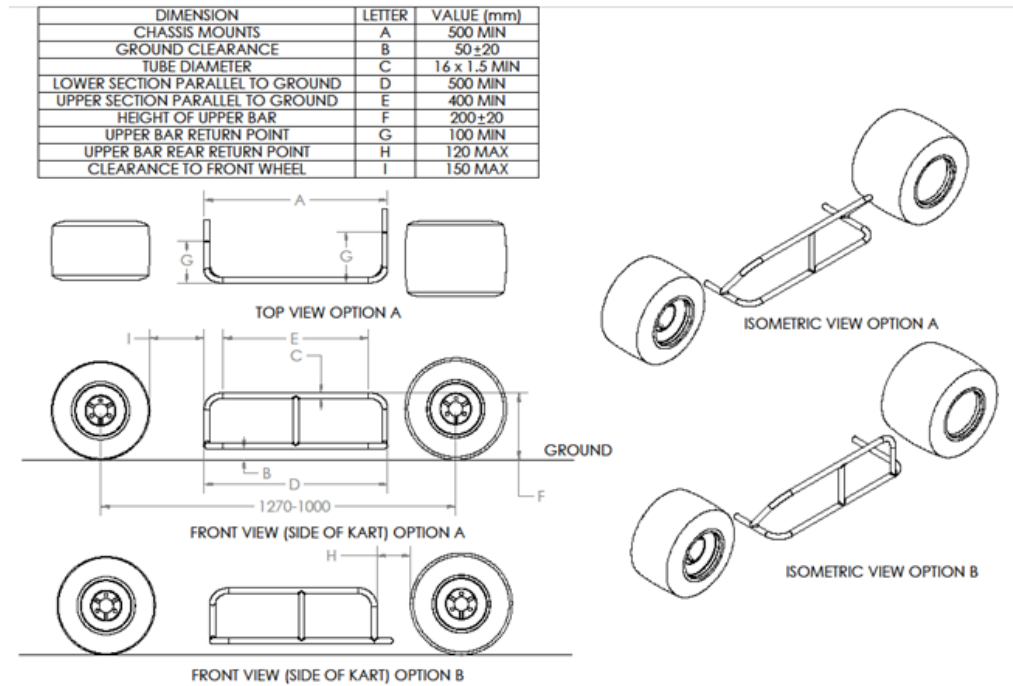

FIGURE 1.4.1
- (a) Side Bumpers are compulsory and must comply with the following Technical Specifications (refer figure 1.4.1)